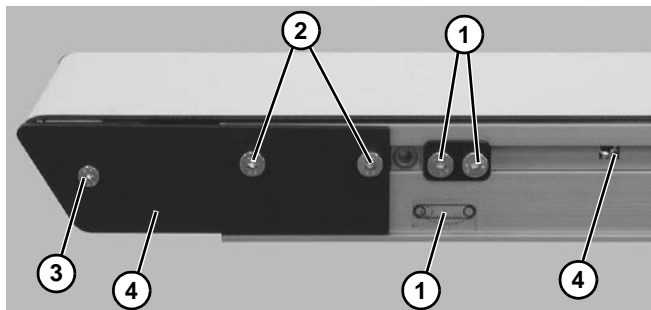

**Figure 67**
7. Install inframe drive side cover (**Figure 67, item 1**) with two head plate fastening screws (**Figure 67, item 2**).